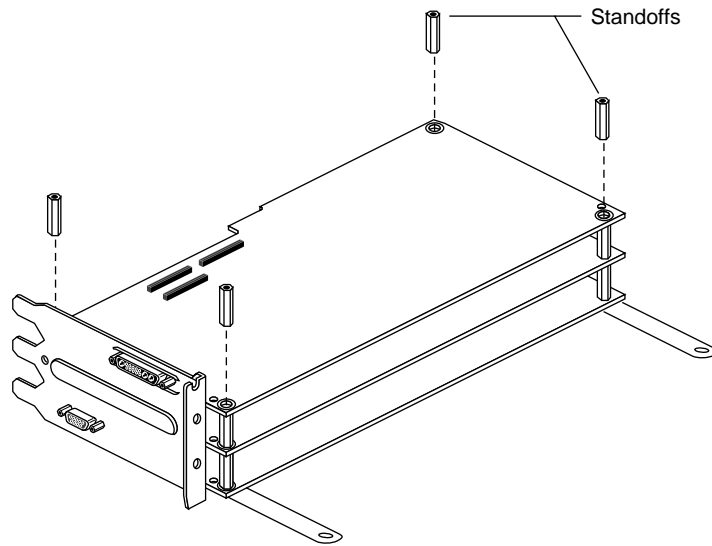

Figure 2-12 Installing the Standoffs
3. Install the four standoffs in the same corner screw holes from which you removed the screws. (Figure 2-12).